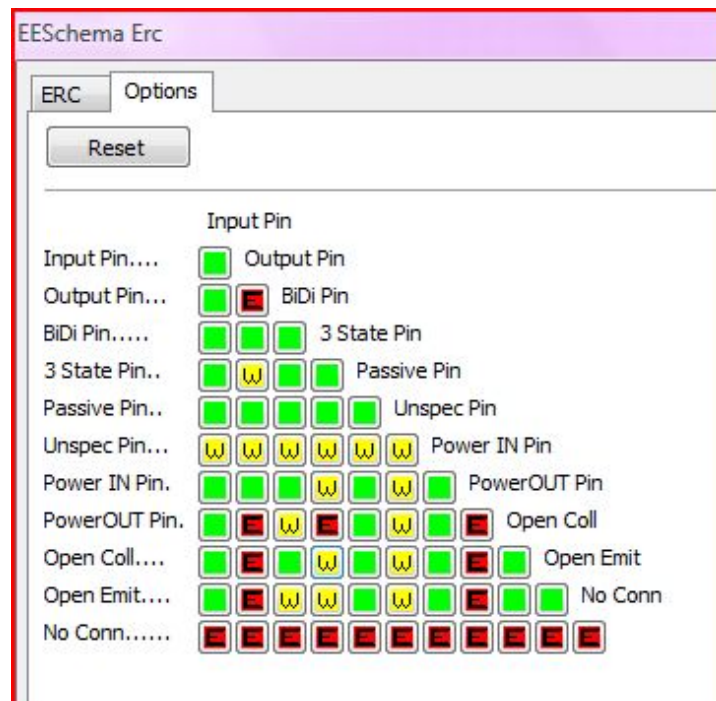

Figure 15.1: ERC Table
- User can actually decide what you want to be told about, by setting the table below accordingly. For instance if the user wanted the ERC to throw an error if an input was connected to an input then the user would change the topmost box from green (no message) to yellow (warning) or red (error) as shown in Fig. 15.1